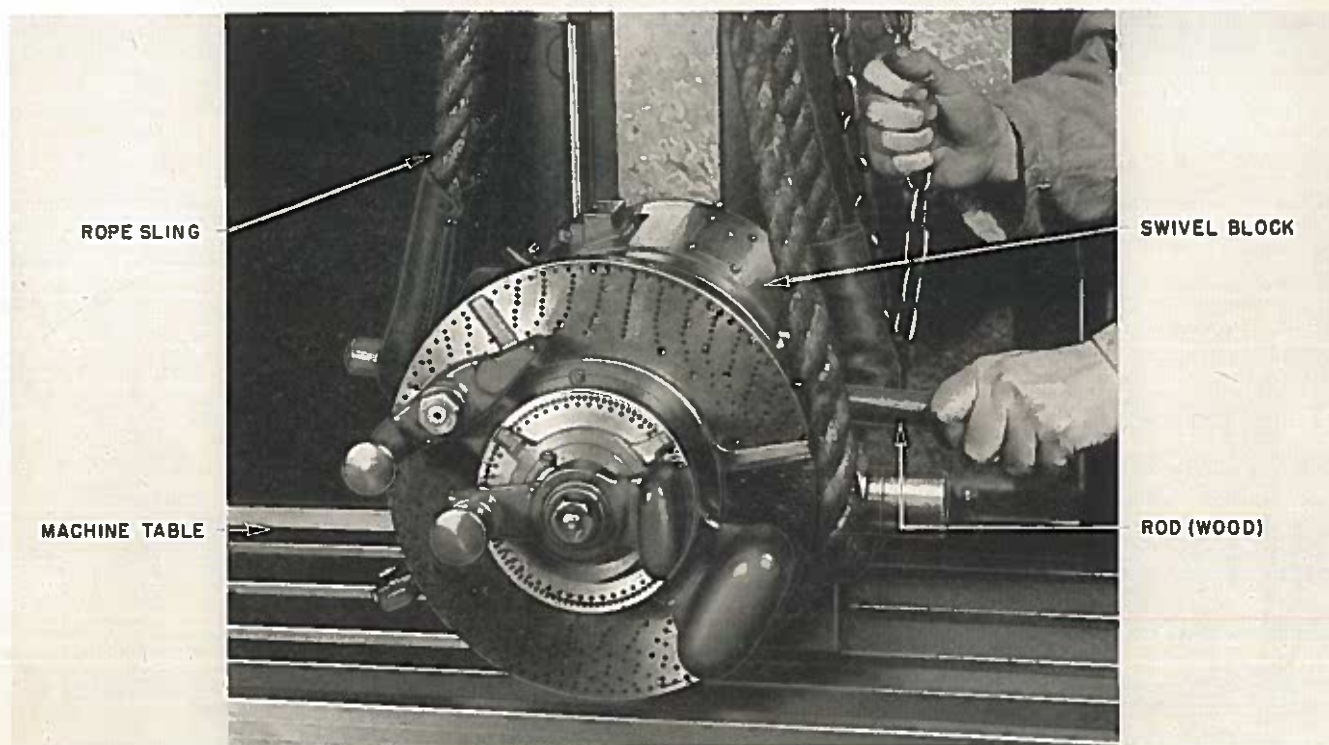

FIGURE 4A
2. Insert a round wooden rod (about 1" diameter) through Spindle of Dividing Head and fasten Rope Sling around each end of wooden rod. See Figure 4A.